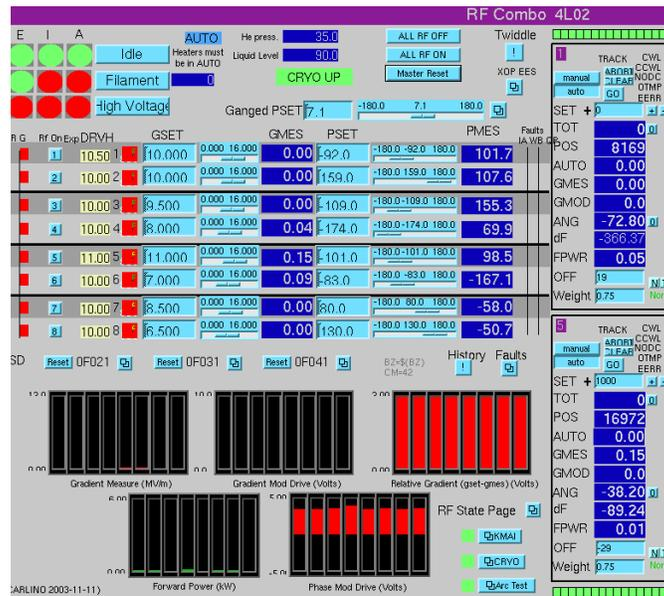

Figure 9-1: RF Zone 2
1. Open the *RF Combo 4L02* screen from **FEL Main Menu**⇒**RF**⇒**RF FEL Main Menu**⇒**Zone 2 Misc**⇒2nd blue button (Figure 9-1).